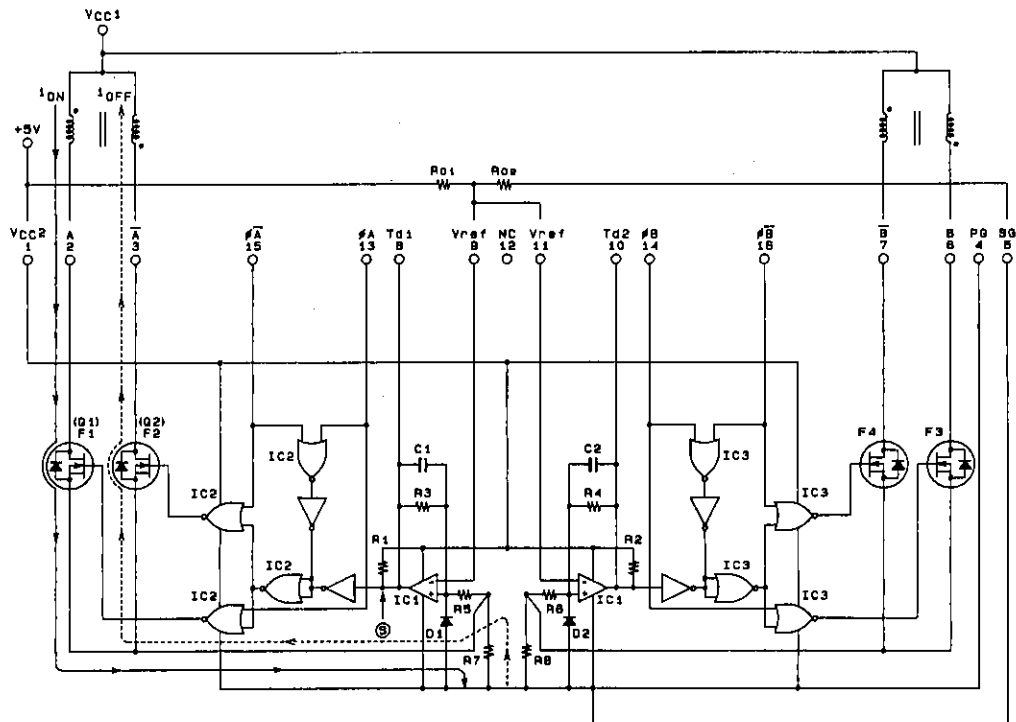

Fig. 1 STK6713BMK4 Internal Equivalent Circuit
The STK6713BMK4 equivalent circuit is given in Fig. 1. The circuit consists of the phase drivers, the comparator, the PWM excitation select and the current detect resistance. In Fig. 1 ϕA is input with low, and ϕA with high. When Q1 goes on, the +pin of IC1 (comparator) goes low, making IC1 output ⑤ low also. A winding current i_{ON} through Q1 increases as: